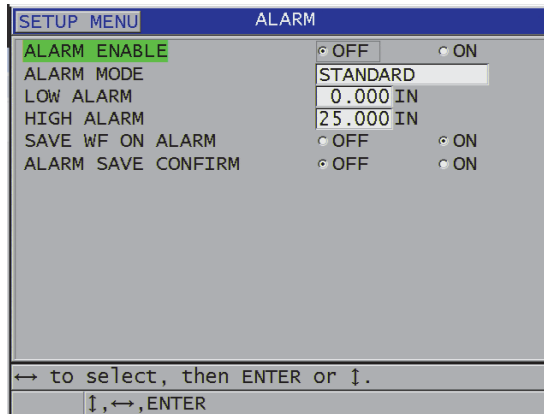

Figure 8-7 Setting up the STANDARD alarm
3. In the **ALARM** screen (see Figure 8-7 on page 139):